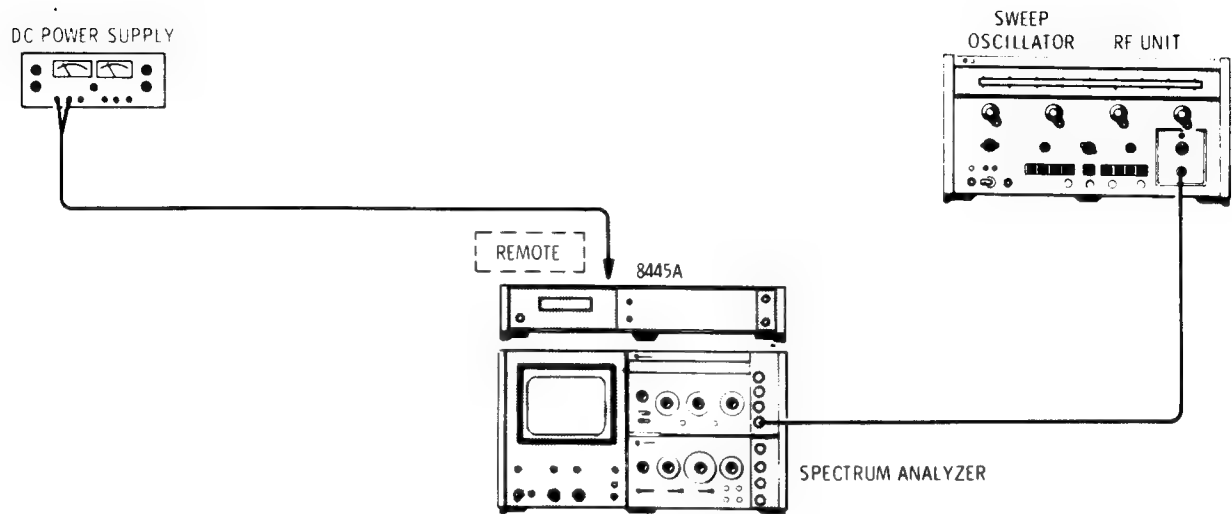

Figure 4-3. Insertion Loss Test Setup, 1.8 –18 GHz
1. Connect test setup as indicated in Figure 4-3 and make the following control settings.